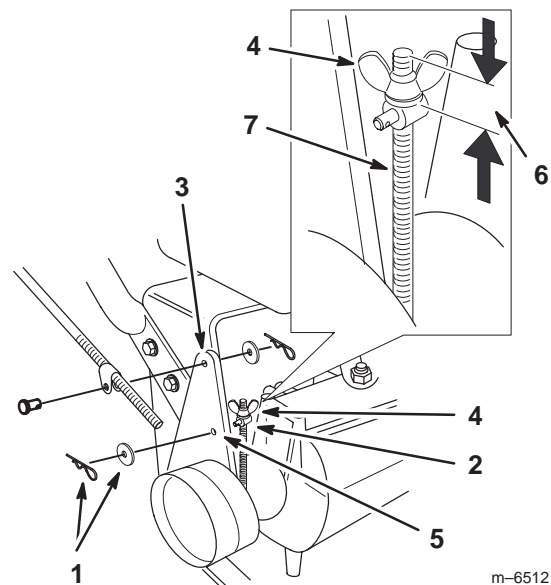

Figure 36
Note: For the initial adjustment, adjust the wing nut until it is 1-1/4 inches from the top of the rod (Fig. 36).
5. To adjust the brake remove the hair pin cotter and washer from the brake lever and trunnion (Fig. 36).
8. Install the trunnion into hole **F** (Fig. 36). Tighten the wing nut.
9. Secure trunnion to brake lever with washer and hair pin cotter (Fig. 36).